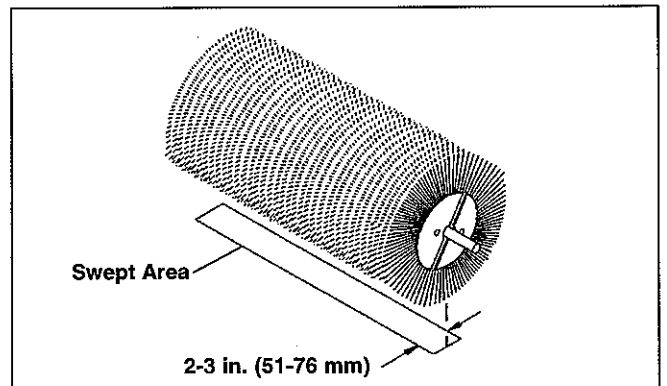

figure 10
7. Check the brush pattern left in the dust. The swept area should be 2-3 in. (51-76 mm) wide, running the length of the brush (figure 10).